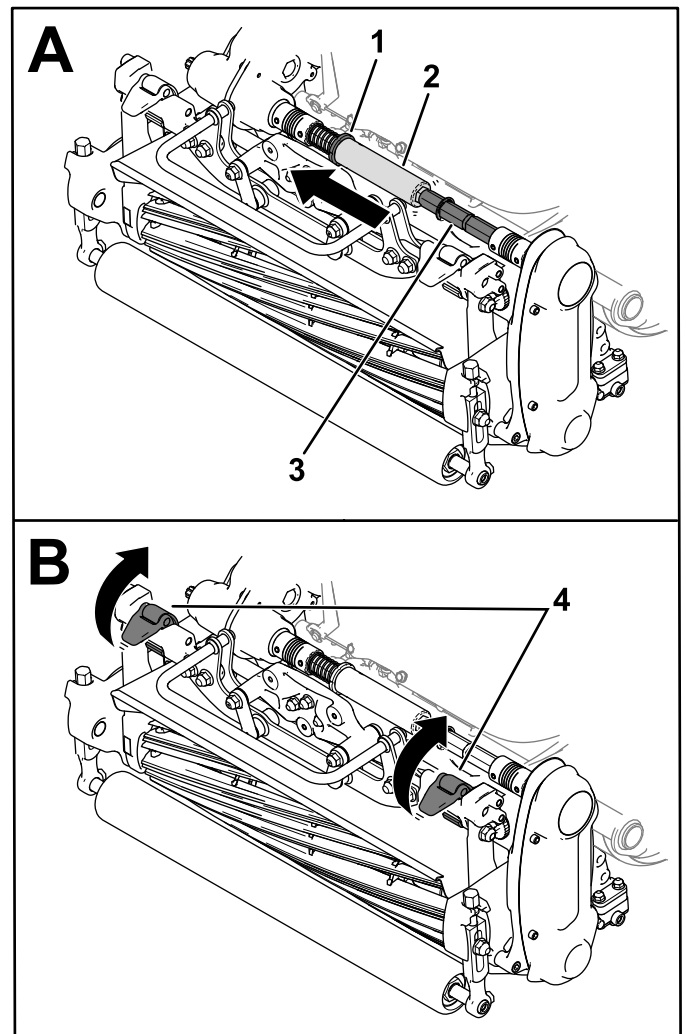

Figure 42
- Move the collar (Figure 42) into the transmission-shaft groove.
- Slide the hex tube off of the cutting-unit coupler shaft (Figure 42).
- Move the suspension latches up to release the cutting unit from the machine (Figure 42).